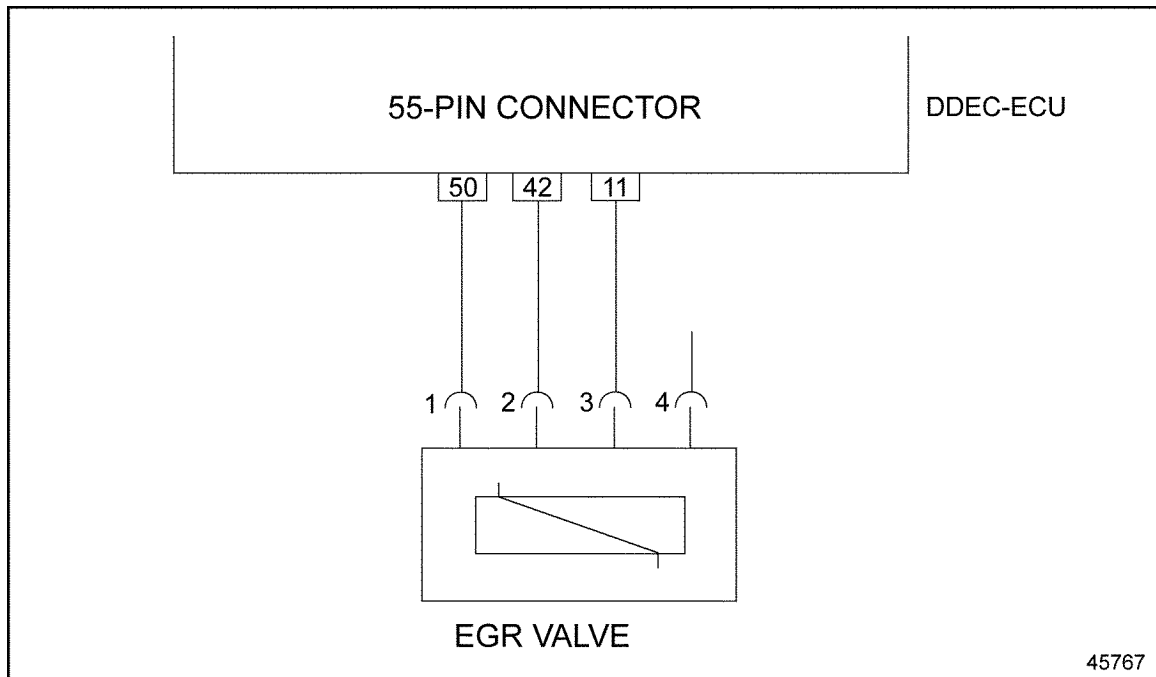

Figure 4-4 EGR Valve Wiring Diagram
2. Check the resistance between pin 42 of the 55-pin connector and pin 2 of the EGR valve connector. See Figure 4-4.
3. Bridge pin 3 of the EGR valve connector to ground and check for active fault codes. See Figure 4-4.
4. Check the resistance between pin 50 of the 55-pin connector and pin 1 of the EGR valve connector. See Figure 4-4.